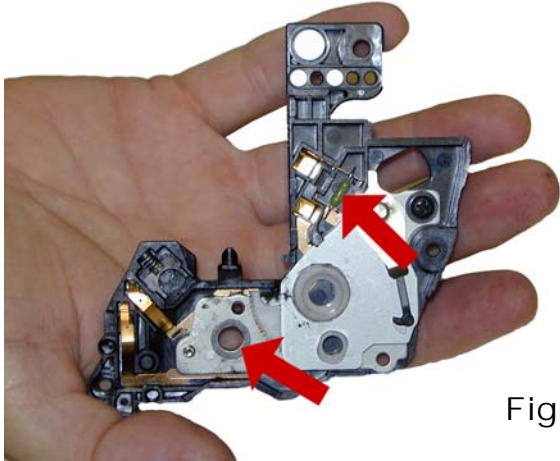

Figure 37
19) Remove the end cap. Note the fuse and flat washer on the metal plate. The fuse needs to be replaced before the cartridge is re-assembled. (later step). See **Figure 37**